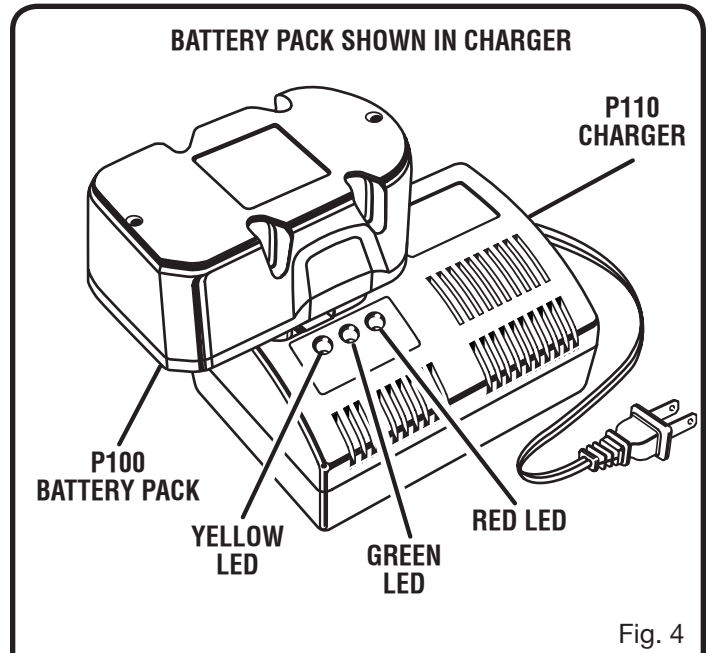

Fig. 4
- Place the battery pack in the charger aligning raised rib on the battery pack with the groove in the charger. See *Figure 4*.